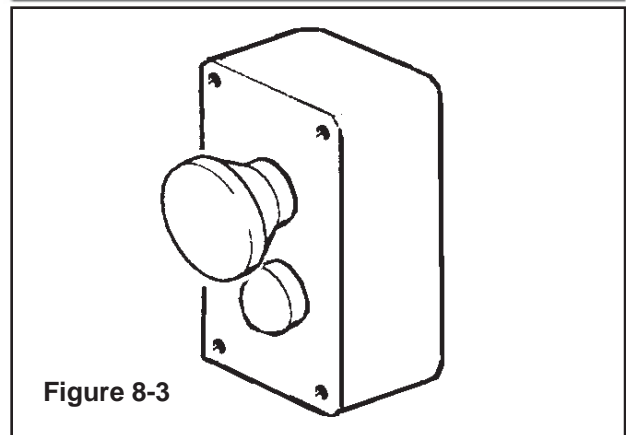

Figure 8-3
- The Energy Saver Control (**Figure 8-3**)